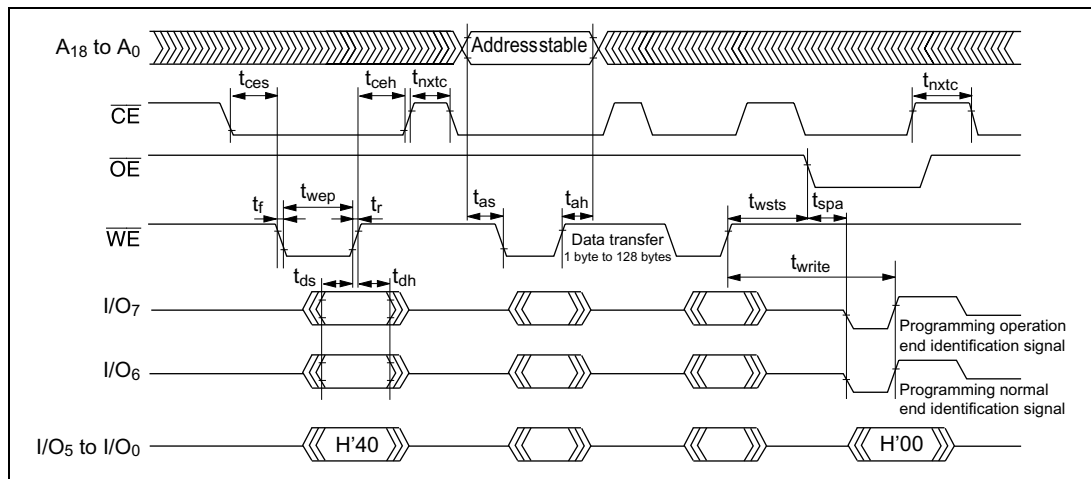

Figure 19-25 Auto-Program Mode Timing Waveforms
- Memory address transfer is executed in the second cycle (figure 19-25). Do not perform transfer later than the second cycle.